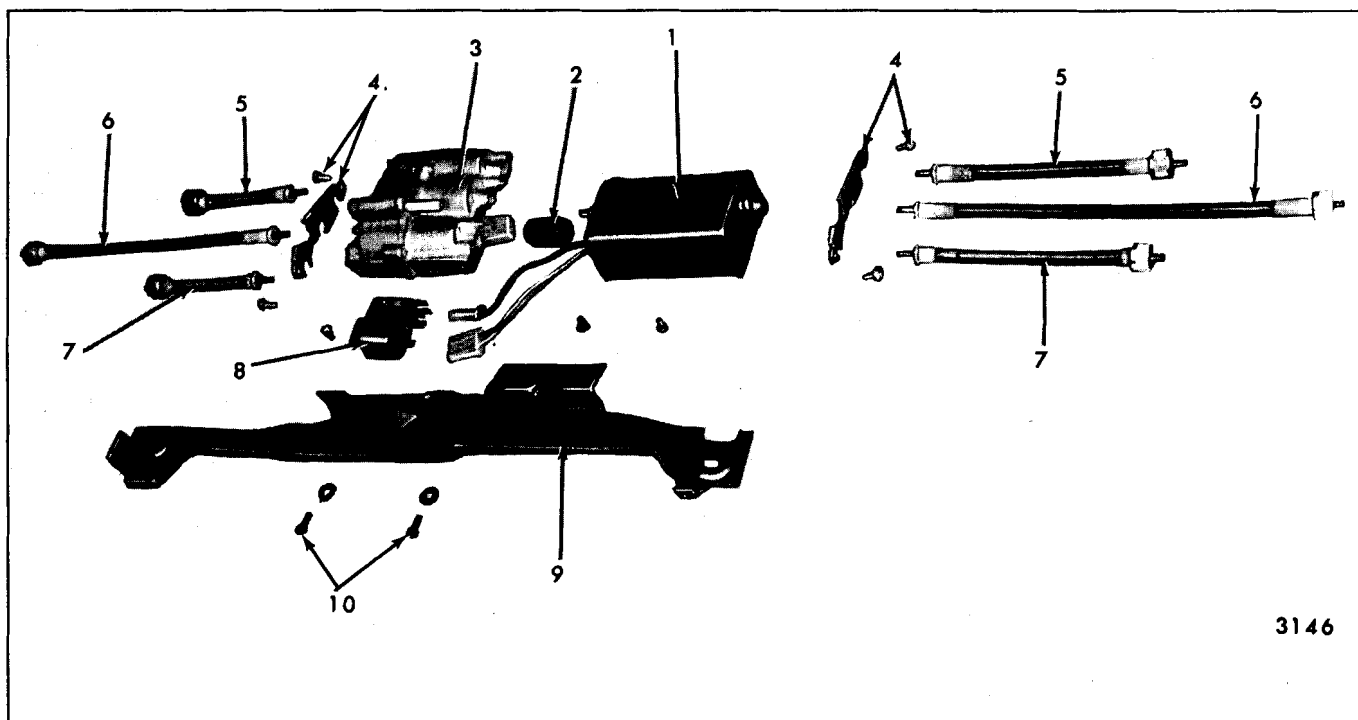

Fig. 14-21-Six-Way Seat Adjuster Motor, Transmission, Cable and Support - Disassembled
3. From under front of seat, remove transmission cable end plate attaching screws; then, slide end plate up cables sufficiently to disengage rear vertical cable from end plate (Fig. 14-21).
cable(s) is being removed. Remove transmission end plate attaching screws (Fig. 14-21); then, slide end plate up cables sufficiently to disengage cable(s) from end plate.
- At opposite adjuster, detach drive cables from adjuster and remove nut securing motor and transmission support at front of adjuster (Fig. 14-21).
- To install transmission assembly, reverse removal procedure. Install drive cables (color coded) as shown in Figure 14-21. Check operation of seat assembly to limits of horizontal and vertical travel.